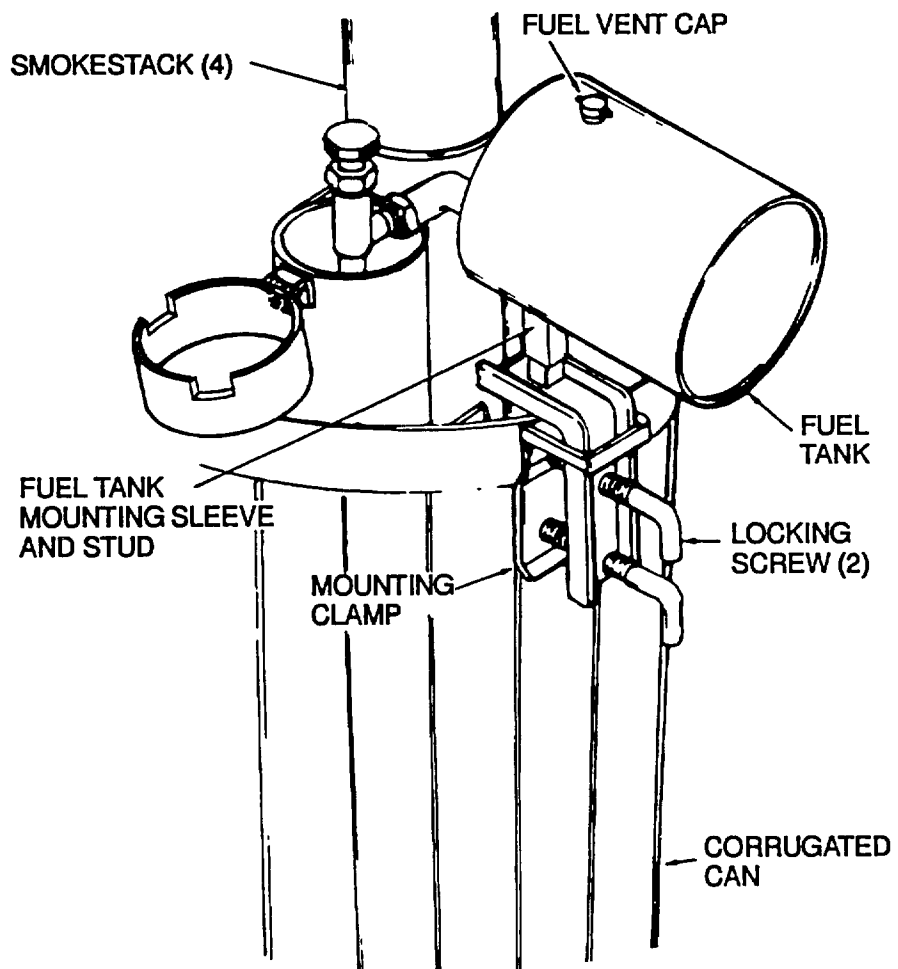

Figure 2-3. Immersion Heater and Fuel Tank Installation
- (4) Place heater in corrugated can with heater hanger resting on rim of can wall and with wall between mounting clamp and rear plate on heater (Figure 2-3).
- (5) Turn two locking screws in hanger clockwise until they are tight against mounting clamp and the heater is secure in position.
- (6) Fill can with water to within 6 inches of the collar assembly.
- (7) Check that fuel tank is full of fuel.
- (8) Place fuel tank on heater by placing mounting sleeve on tank over square stud on heater mounting bracket (Figure 2-3).